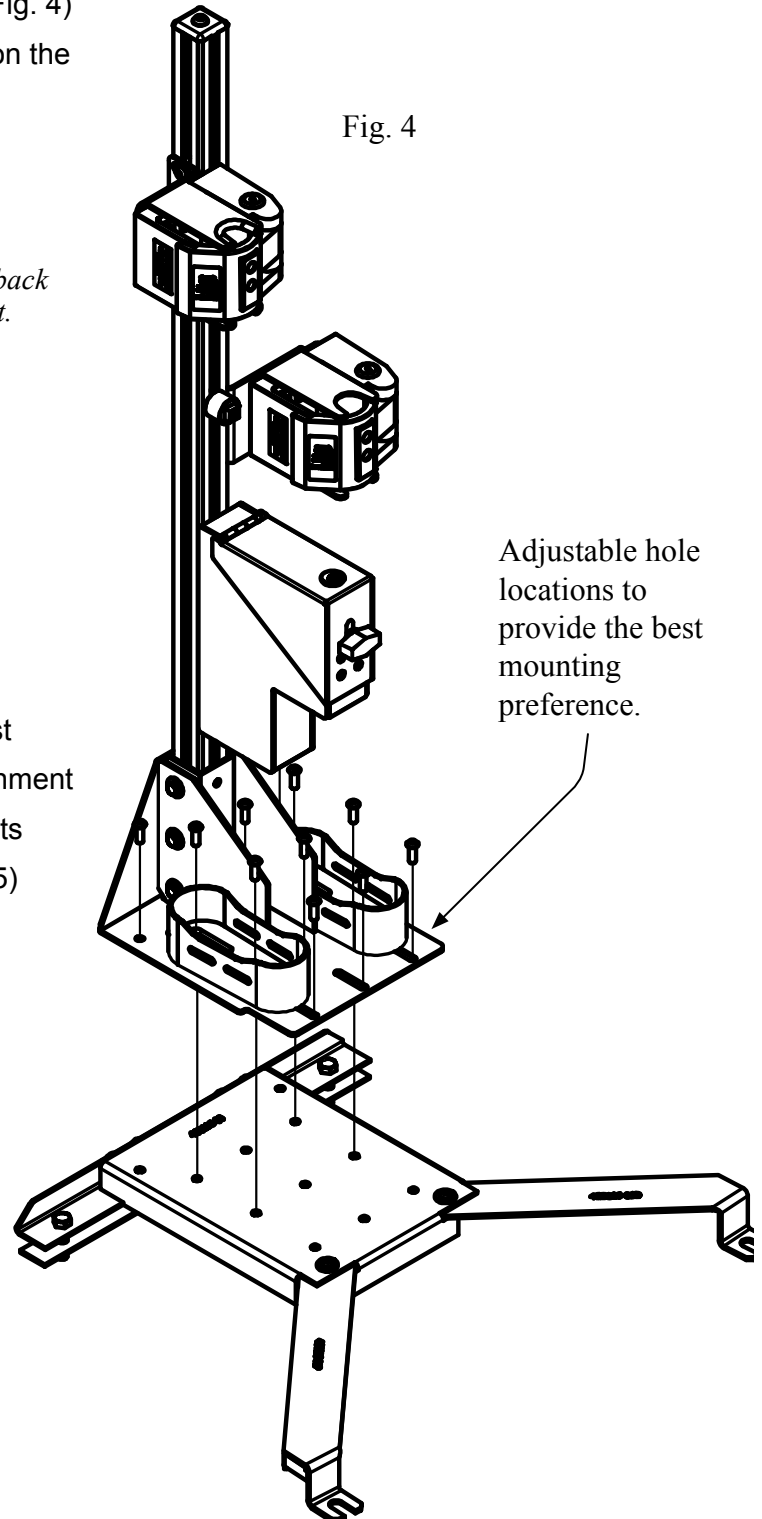

Fig. 4
- A. For self-supporting installations, remove the four bolts that secure the butt plates to the base of the gun rack. Then rest the gun rack to the self supporting stand, loosely attach the gun rack and adjust it and the butt plates as necessary from front to back. (See Fig. 4) Now, tighten the front support arm fasteners on the base.